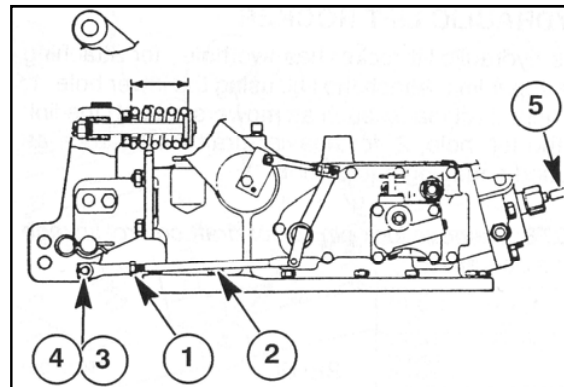

Figure 2-53
2. Loosen the locknut (1) in Figure 2-53, on the draft control rod (2) in Figure 2-53.
3. Remove the cotter pin (3) in Figure 2-53, and disconnect the draft control rod from the draft control arm pin (4) in Figure 2-53.
4. Open the drop rate control valve knob (5) in Figure 2-53, to the full open position.
6. Move the draft feedback rod (2) in Figure 2-53, rearward until the relief valve stops operating. Adjust the length of the rod to match the rod hole with the draft arm pin (4) in Figure 2-53, then shorten the rod one more turn and connect the rod to the draft arm.